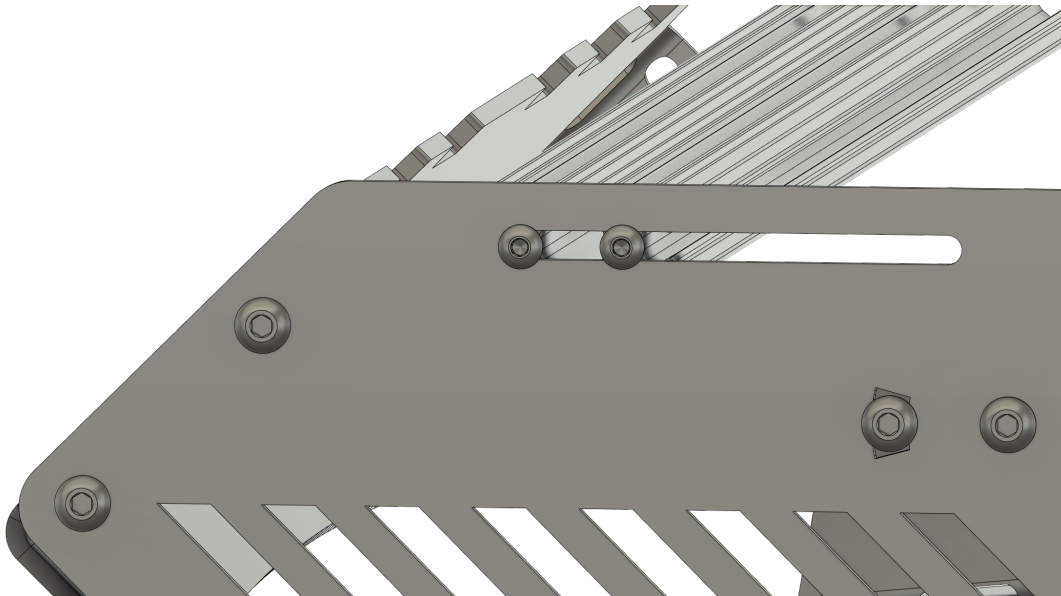

Figure 11
Aside from the front load bar position outlined in **FIGURE 11** the final installed position of the load bars in the roof rack is not relevant. The rack design is capable of maintaining structural integrity with up to two (2) of the load bars removed at any time as long as they are not neighbors. This is to allow easier mounting of larger gear and roof top tents.